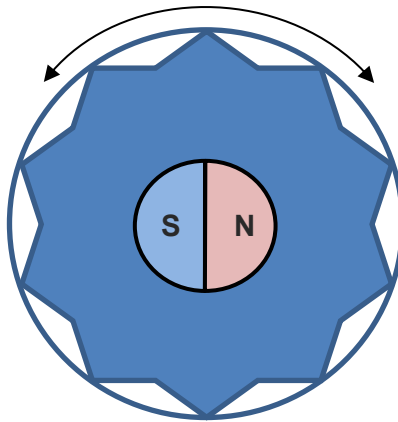

Figure 3-1: Discrete Mechanical Intervals
Figure 3-1 illustrates an example wheel with 10 intervals. The IQS625 can be configured to generate an event on each interval. Configure the following registers for setup:
4. The interval register will increment every 36 degrees. If the wheel is zeroed using discrete mechanical intervals (Figure 4-1), half an interval should be added to the Wheel Zero Offset (0x7E-0x7F). With this offset, the interval register should increment when the wheel has moved half of the interval as shown by B in Figure 3-1.